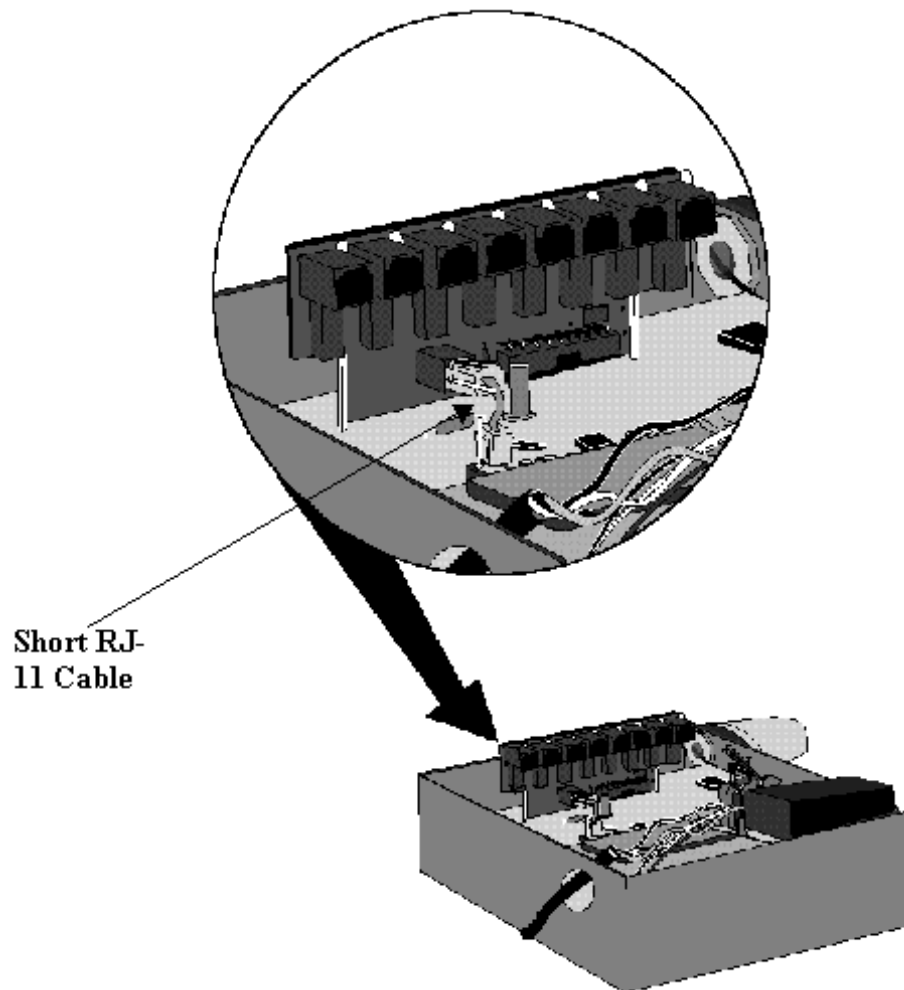

Figure A-2. Connecting the RJ-11 Jacks
7. Insert one end of the supplied short cable into the RJ-11 jack on the lower-left side of the Module. Insert the other end into the OMEGA unit's RJ-11 jack on the unit's baseboard (see Figure A-2).